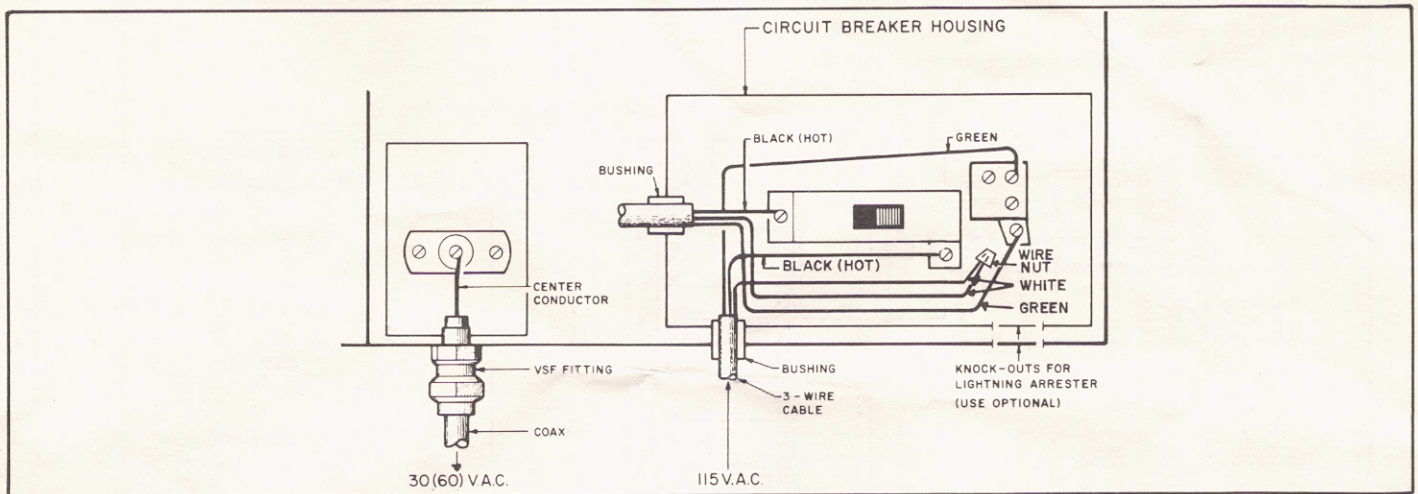

Fig. 4—Coax and Line Wire Connections
- 3.4** Remove the covers from the output terminal and surge arrester boxes by loosening the screws at the bottom, sliding the covers up and lifting them off. Then connect actual load (trunk station) or dummy load (4 to 10 Ω , 300 W) to the output terminal (see Fig. 4).
- Loosen the two locking bolts on the front cover and remove the cover. Remove the covers from the output terminal boxes, remove the cover from the circuit breaker box, and remove and discard the plastic cap plugs from the a.c. output apertures in the housing bottom. If you intend to install a lightning arrester, knock out the metal disc from the aperture provided in the housing bottom and the one beneath it in the wall of the circuit breaker box (Figs. 4 and 5).
- b. Feed the 115 V, 3-wire cable through the bushing in the bottom of the power supply housing into the circuit breaker box and connect the wire ends as shown in Fig. 4. Replace the cover on the circuit breaker box and make sure the switch is in the OFF position. Also make sure the 115 V plug is properly seated in the receptacle on the transformer chassis.
- d. Where it is desired to use a lightning arrester, after step b, first mount a 1/2" conduit bushing at the arrester aperture in the bottom of the power supply housing (Fig. 5). Then remove 1/2" of the insulation on the three leads of the arrester, tin the exposed wire ends, and solder the ends of the black leads together. Feed the wires through the bushing into the circuit breaker box and screw the arrester body onto the bushing. Inside the circuit breaker box, connect the black leads to the terminal on the circuit breaker and the white lead to one of the four terminals on the terminal bank as shown in Fig. 4. Then continue with step c above.